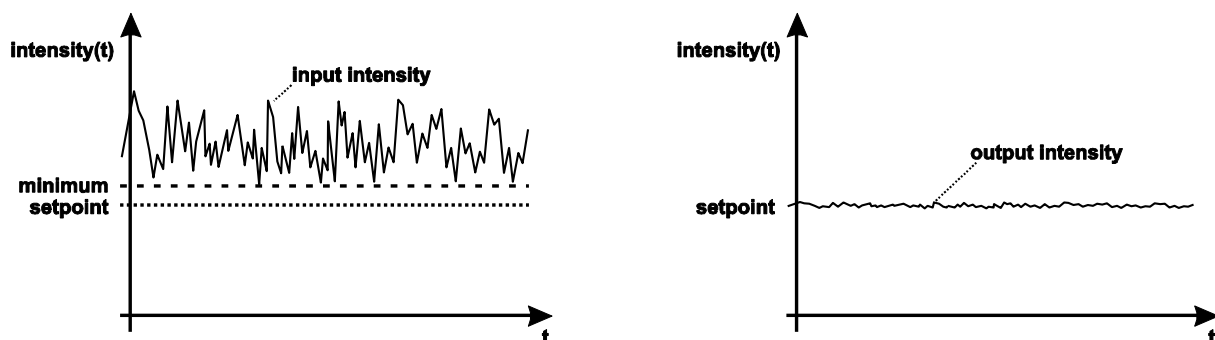

fig. 6.1: correct adjusted regulator-setpoint
Set the “regulator switch” (8) to the upper position (“reg“). The *NoiseEater* regulates the laser intensity to the value chosen by the trim-pot “setpoint” (2). The selected setpoint must be below the unregulated input signal (fig. 6.1).